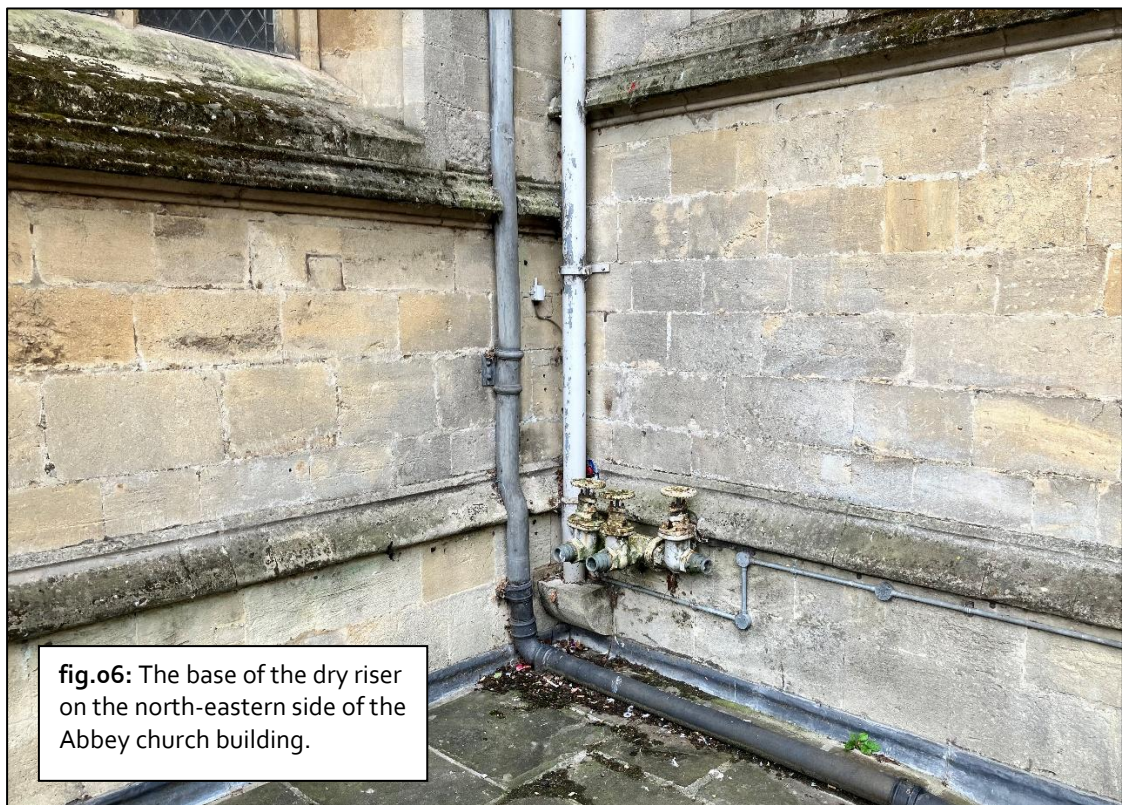

fig.o6: The base of the dry riser on the north-eastern side of the Abbey church building.
- 3.18 The large bore pipework which snakes up the external face of the building in the north eastern and south-western returns is the dry riser system, installed to assist in firefighting many years ago (see fig.o6 below). The Abbey, its insurers and the Avon Fire & Rescue Service have noted the poor condition of the pipework, and have concluded that it is no longer required for effective firefighting, should the eventuality arise. Rather than perpetuate its existence and continue to maintain it, the pipework is to be removed in a phased programme of work as access allows. In this instance, the pipework on the north-eastern return is to be accessed via the scaffolding to be erected from pavement level to the tower roof. The metalwork will be carefully removed, and any resulting apertures in the stonework made good using matching masonry repairs.